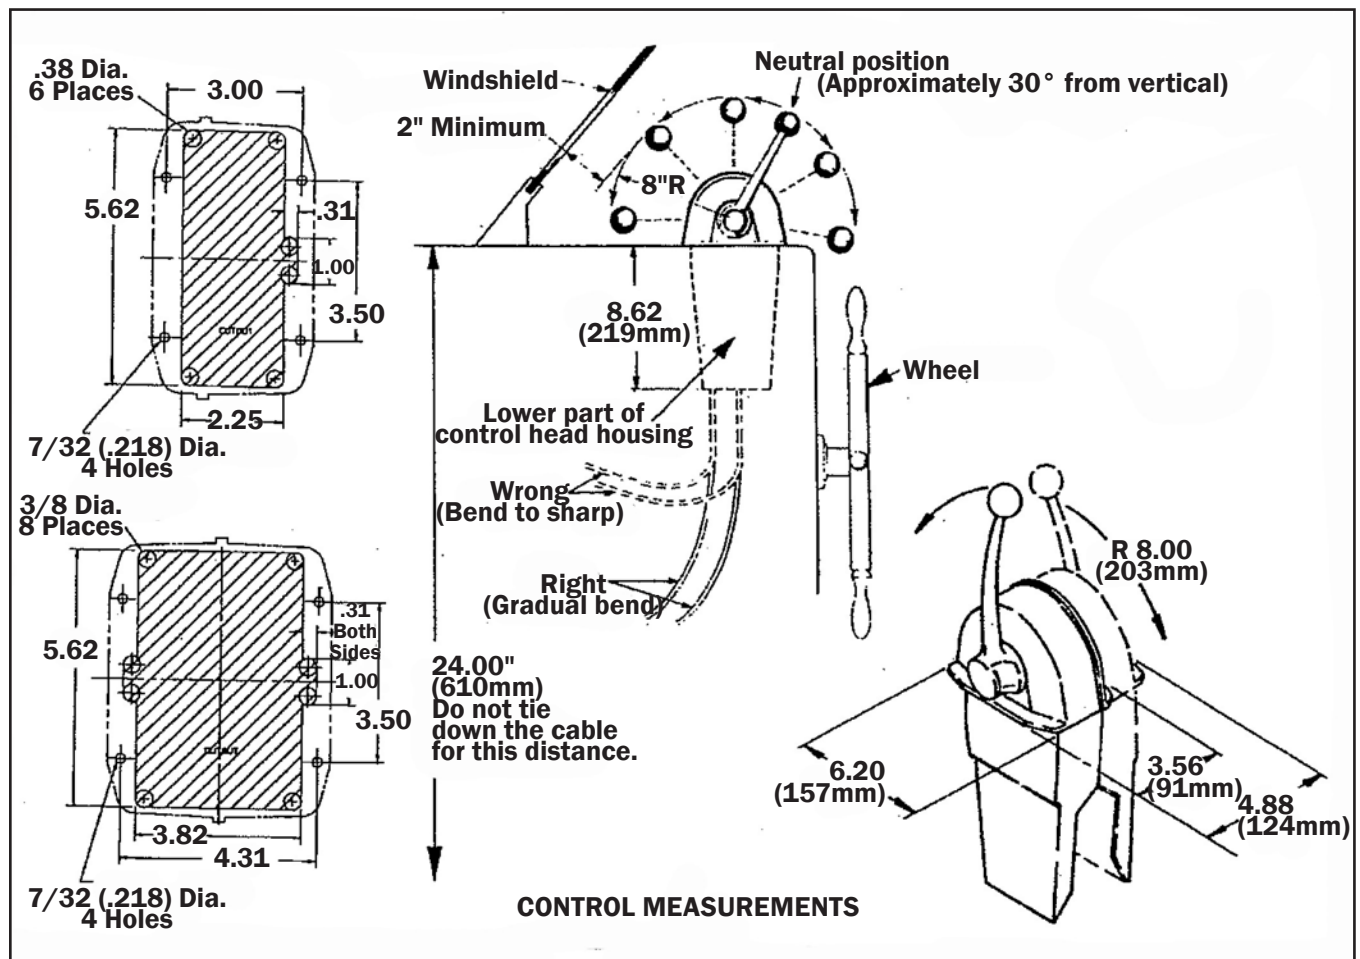

Figure 1.
STEP 2. Allow adequate clearance under the console for the cables. Refer to Figure 1.